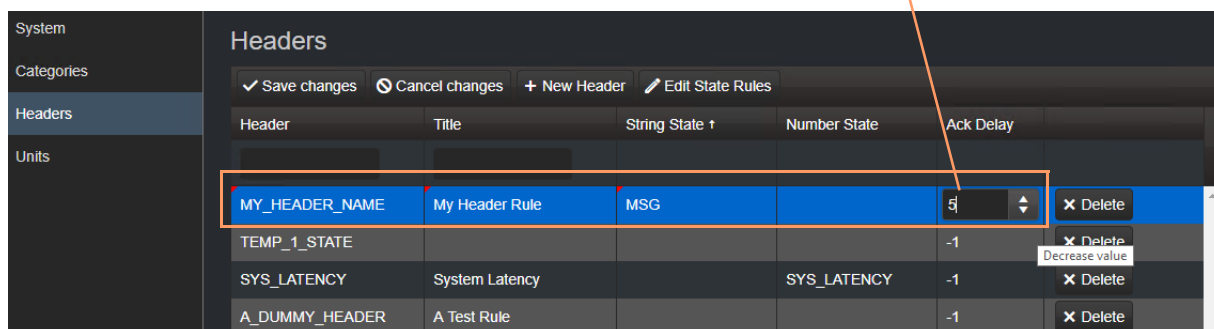

Fig. 2-24: Select an Ack Delay Figure (seconds)
- 6 If an auto-acknowledge is required, set the timeout period (**Ack Delay** figure in seconds, -1 = no auto-acknowledge). See Figure 2-24.